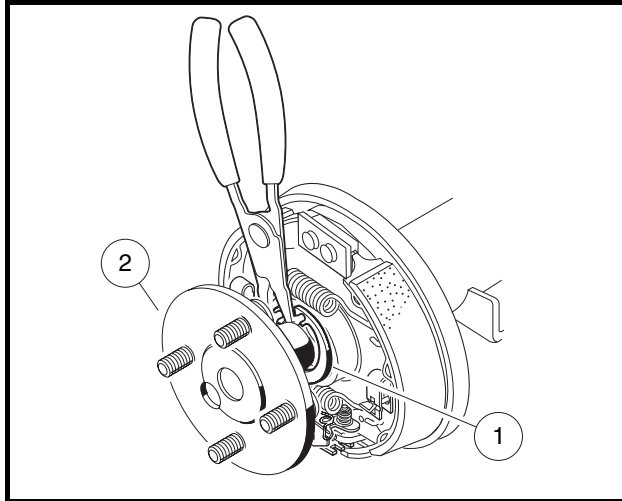
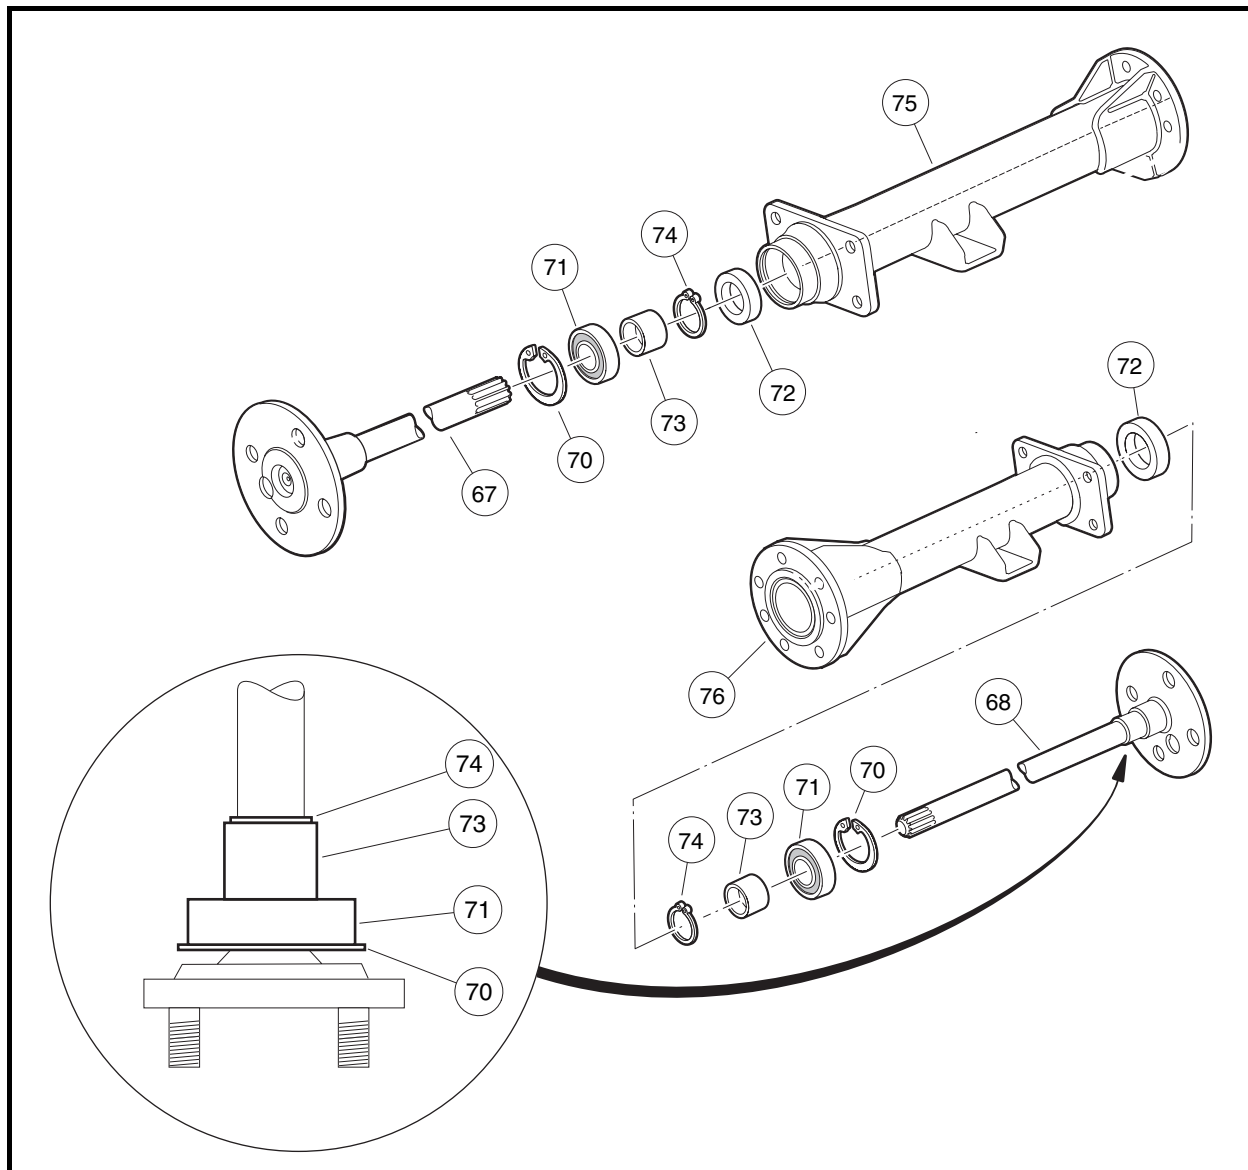
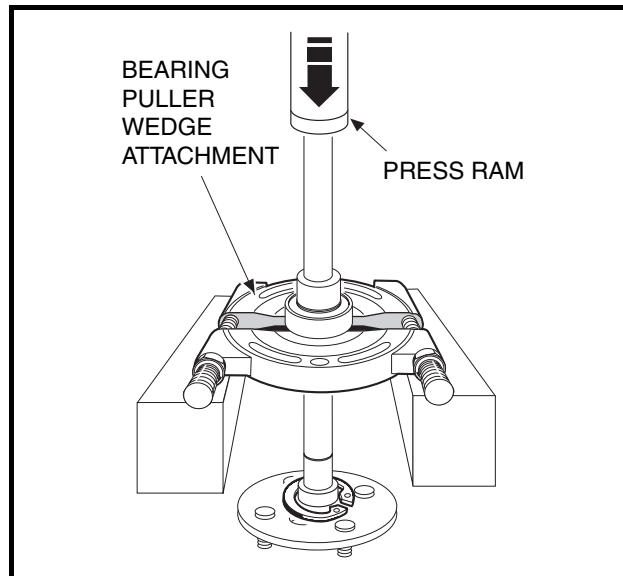
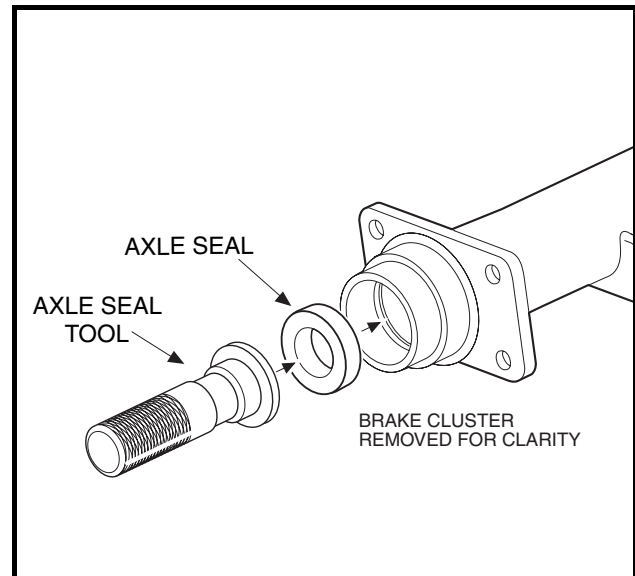

Figure 18-3 Retaining Ring
Figure 18-6 Differential Gear Case/Axle Tubes
Figure 18-7 Bearing and Collar
Figure 18-8 Axle Seal Tool
6. Use 90° internal snap ring pliers (0.090-in. tip) to remove internal retaining ring (1) from axle tube (**Figure 18-3, Page 18-3**).
7. Carefully pull the axle shaft (2) straight out of the axle tube (**Figure 18-3, Page 18-3**).
9. Inspect the axle shaft assembly to be sure the bearing (71) and collar (73) have not slipped and are still seated against the shoulder on the axle shaft (Figure 18-6, Page 18-4).
1. Use external retaining ring pliers (0.047-inch tip) to remove the retaining ring (74). Place a bearing puller wedge attachment (CCI P/N 1012812) on the axle shaft between the wheel mounting flange and the bearing (Figure 18-6, Page 18-4). See also Figure 18-7, Page 18-6. See following CAUTION.
2. Press the bearing (71) and collar (73) off together (Figure 18-6, Page 18-4). See also Figure 18-7, Page 18-6. See following NOTE.
Do not remove the large axle retaining ring (70) from the axle (Figure 18-6, Page 18-4). Since the inner diameter of the retaining ring (70) is smaller than the outer diameter of the bearing (71), the ring must be in place on the axle before a new bearing and collar are pressed on.
1. Ensure that the retaining ring (70) is loosely placed on the axle shaft. **See preceding NOTE.**
2. Install a new axle bearing (71) on axle (67 or 68). Push bearing onto axle until bearing is flush against axle shoulder (**Figure 18-6, Page 18-4**).
4. Place a new sealed bearing (71) on shaft (67 or 68) (**Figure 18-6, Page 18-4**).
5. Install collar (73) onto axle shaft. Place axle assembly on bearing puller wedge attachment and press collar onto axle.
7. Use external snap ring pliers (0.047-in. tip) to install collar retaining ring (74) (**Figure 18-6, Page 18-4**).
1. Clean bearing and seal seats in axle tube (75 or 76) (**Figure 18-6, Page 18-4**).
2. Place a new oil seal (72) in axle tube with seal lip facing inside of the axle tube (**Figure 18-6, Page 18-4**). Use an axle seal tool (CCI P/N 1012811) to press it in until it seats firmly in position (**Figure 18-8, Page 18-6**). **See following NOTE.**
4. Install the bearing retaining ring (70) in the axle tube (**Figure 18-6, Page 18-4**). **See also Figure 18-3, Page 18-3.**